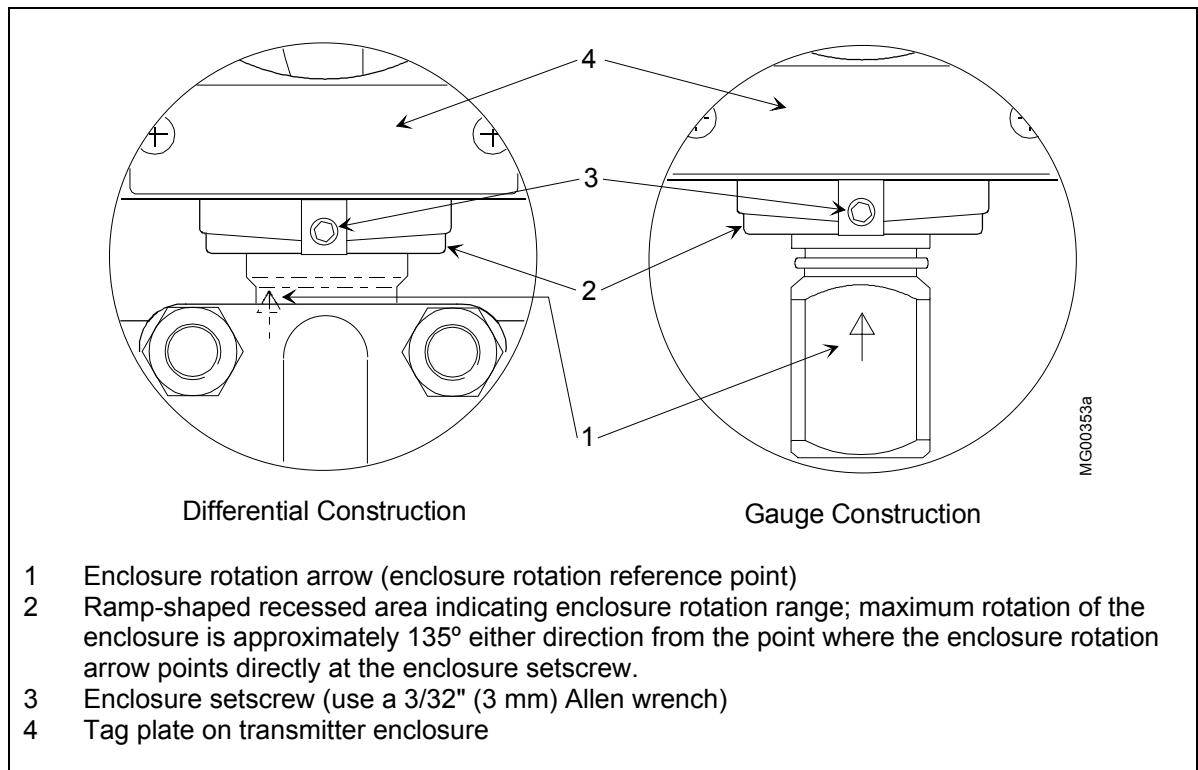

FIGURE 4-13 Enclosure Rotation Considerations
1. Loosen the enclosure setscrew using a 3/32" (3 mm) Allen wrench. See Figure 4-13. The enclosure can be rotated approximately 135° in either direction from the point where the enclosure rotation arrow points directly at the enclosure setscrew. See Figure 4-13.